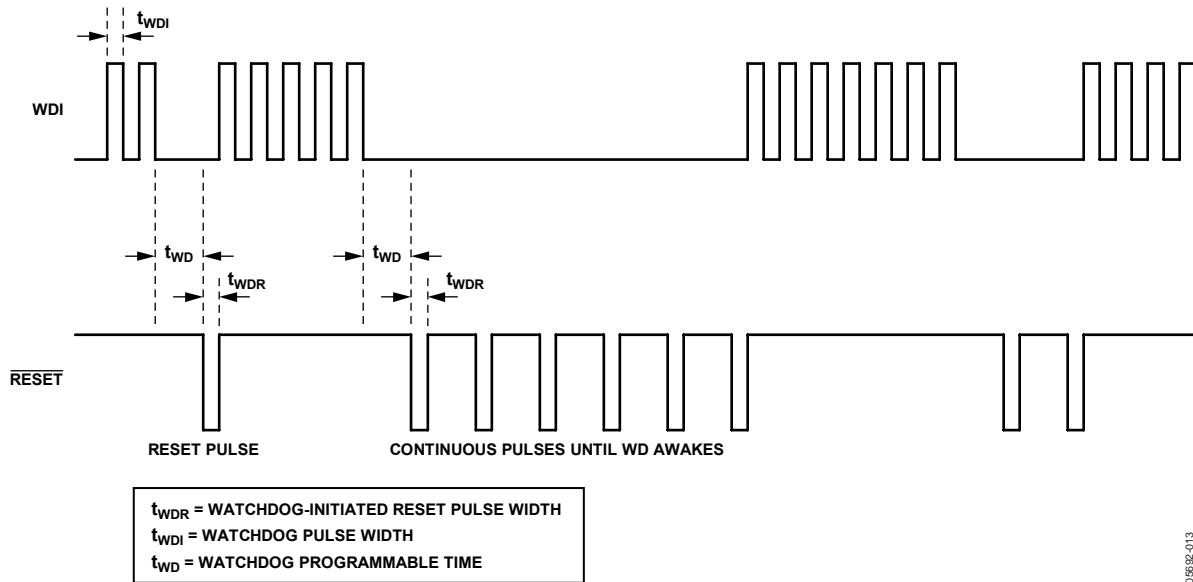

Figure 13. Standard Watchdog—Pulsing Reset Until Watchdog Awakes
standard or advanced watchdog monitoring function. In the default standard watchdog mode, if WDI remains either high or low for longer than the timeout period, a $\overline{\text{RESET}}$ pulse is generated in an attempt to allow the system processor to re-establish the WDI signal. The $\overline{\text{RESET}}$ pulses continue indefinitely until a valid watchdog signal, a rising or falling edge signal at the WDI, is received. The internal watchdog timer clears whenever a reset is asserted. The standard WDI and $\overline{\text{RESET}}$ timing diagrams are shown in Figure 13.
- When the external monitoring processor cannot issue the necessary WDI signal (see Figure 13 and Figure 14)